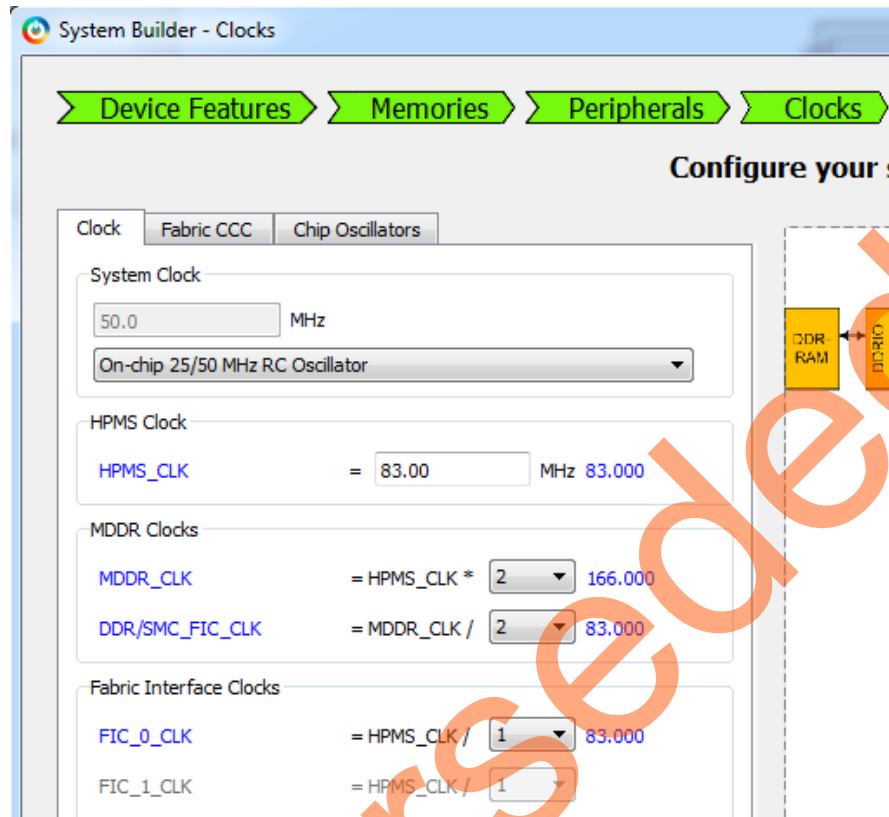

Figure 7 • System and Subsystem Clocks Configuration
9. Click the **Clocks** tab. The **Clock** window is displayed as shown in Figure 7.